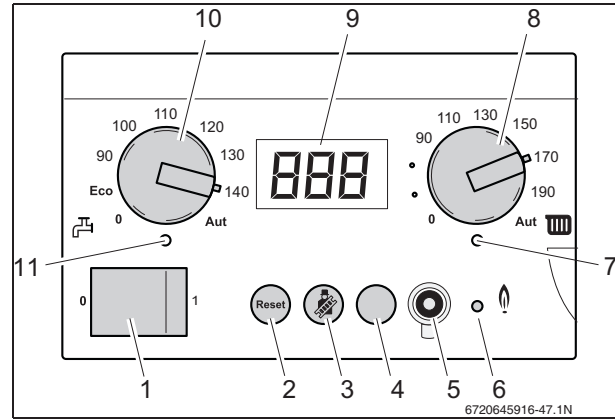

Fig. 66 BC10 basic controller
- Switch OFF the appliance by pressing the main switch of the BC10 basic controller (fig. 66, [1]).
- Switch ON the appliance by pressing the main switch of the BC10 basic controller (fig. 66, [1]).
- After the LED Burner "operation" (fig. 66, [6]) has lit wait for 1 minute until the boiler is burning at part load.
- Press and hold the "Chimney sweep" button (fig. 66, [3]) (approx. 2 seconds), until the dot in the right-hand bottom corner of the display (fig. 66, [9]) appears. → table 12, "Flue gas test", page 36